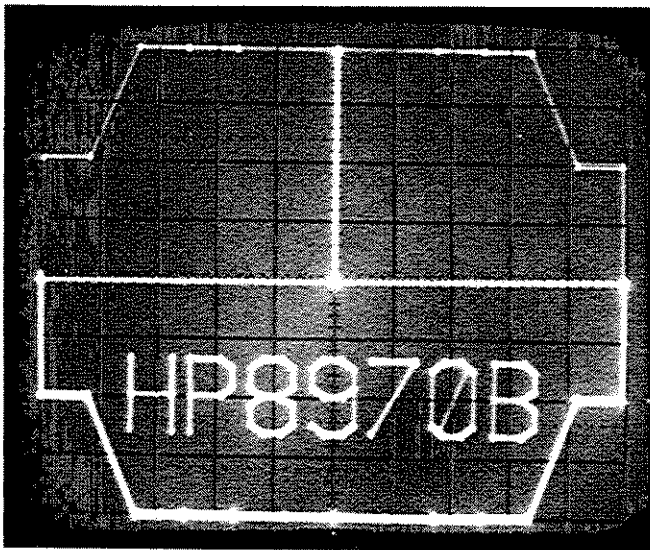

Figure 3-12. Test Pattern on Oscilloscope
5. On the Noise Figure Meter, press 7.1 SPECIAL FUNCTION. Verify that a test pattern is seen on the display. It may be necessary to adjust rear panel GAIN TRACE control to obtain the test pattern. The test pattern should be  $6 \pm 0.5$  volts vertically and horizontally. Adjust the display until the test pattern fills the grid area (see Figure 3-12). Press 7.0 SPECIAL FUNCTION to enable the Noise Figure Meter to output the noise figure and gain data to the display.